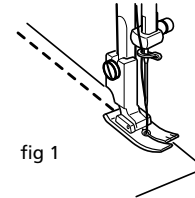

fig 1
- Attach the needle plate for fine fabric (fig 1)
- Lower the presser foot and start sewing (fig 1)